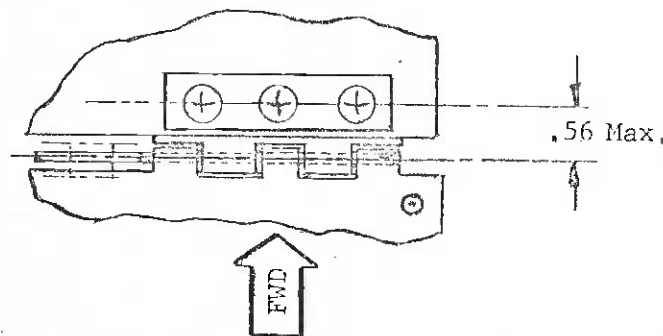

FIGURE 1. ELEVATOR TRIM TAB HINGE INSPECTION
Measure the distance from the center of the trim tab hinge pin to the center of the three (3) mounting screws in the elevator tip on each elevator. The maximum allowable dimension is .56" (see Figure 1). If the dimension is larger than .56", the forward hinge half must be modified or replaced. If the dimension is less than .56", no further action is required and the aircraft can continue in service.